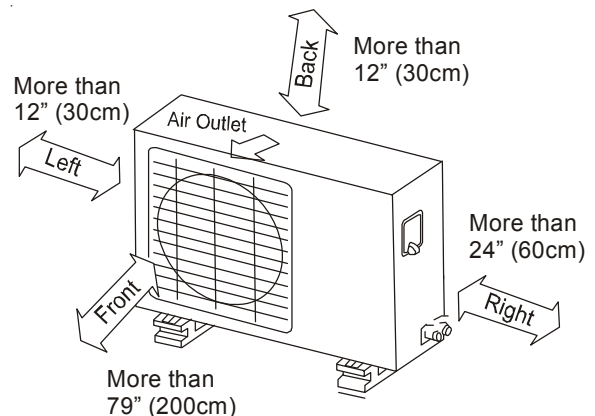

Figure 2
When placing the outdoor unit, consider any obstructions that may constrict the air inlet or outlet. (See Figure 2).
- Keep the clearances from the wall or other obstacles as indicated by the arrows on Figure 2.